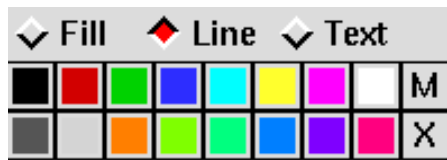

Figure 8-9. The color edit area of the Quick Edit dialog.
2. On the sidebar, click Quick Edit to call up the Quick Edit dialog, if it is not already on your screen. Figure 8-9 shows the color edit area of the Quick Edit dialog.
1. Figure 8-9 shows the color edit area of the Quick Edit dialog. If the Fill option button in the color edit area is not already selected, select it.